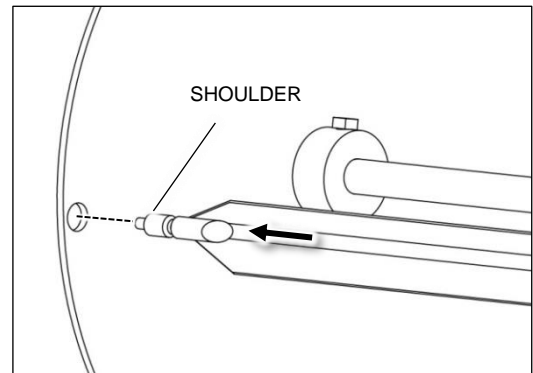

Figure 4-4
1. As indicated in Figure 4-4 insert the pointed end of the skewer into a hole in the plate on left side of rotisserie.